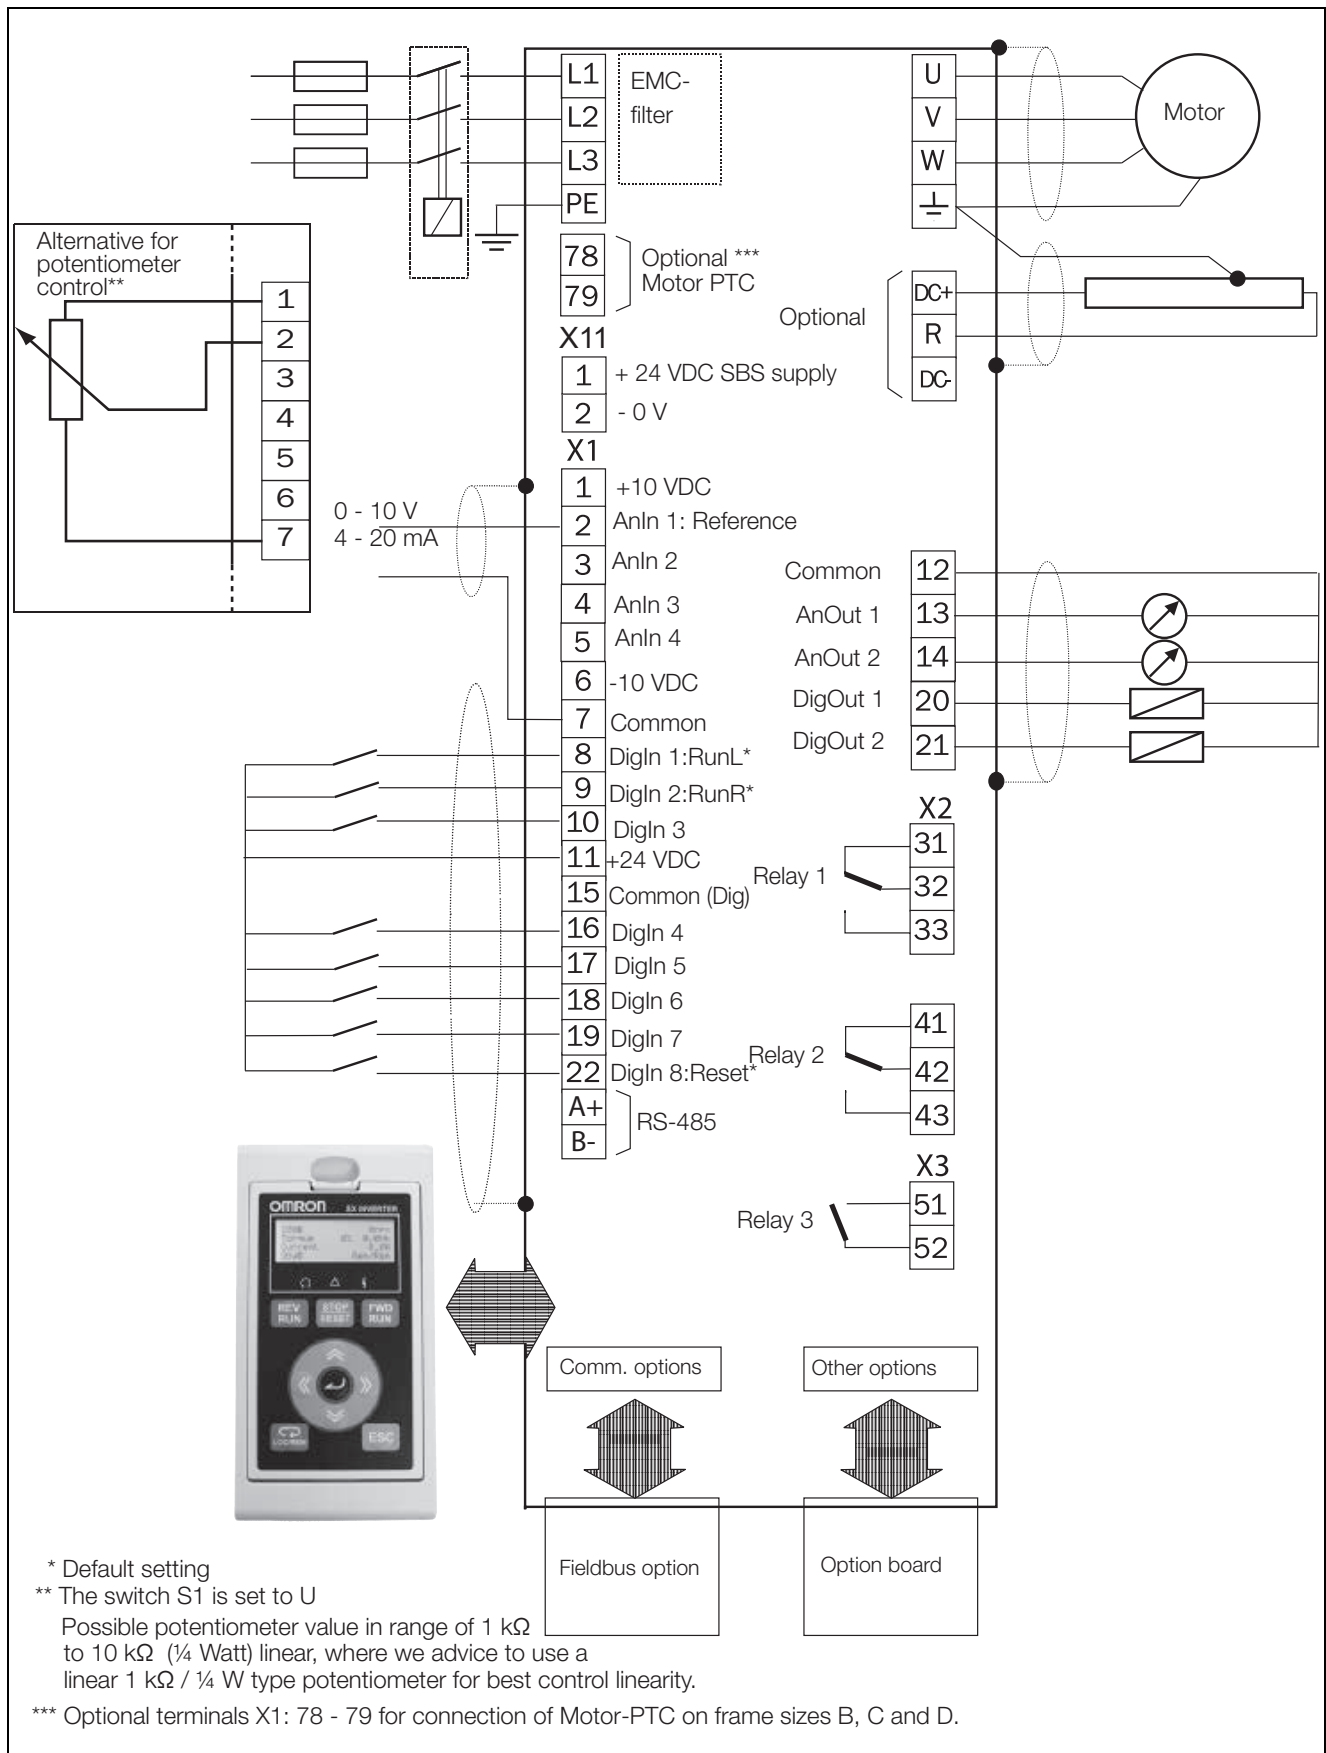

Fig. 63 Connection example
- 2) The integrated RS-485 interface is a isolated interface supporting Modbus RTU protocol with baudrates ranging from 2400 bit/s up to 115.2 kbit/s. Termination and fail-safe can be activated via switch S5 when applicable. Note that proper termination and fail-safe is critical for a stable RS-485 network. It is recommended to use screened RS-485 cable which protects the signals from EMI. The cable screen should (in normal cases) be connected to inverter PE via provided screen clamps, see Fig. 63.
Fig. 63 gives an overall view of a AC drive connection example.